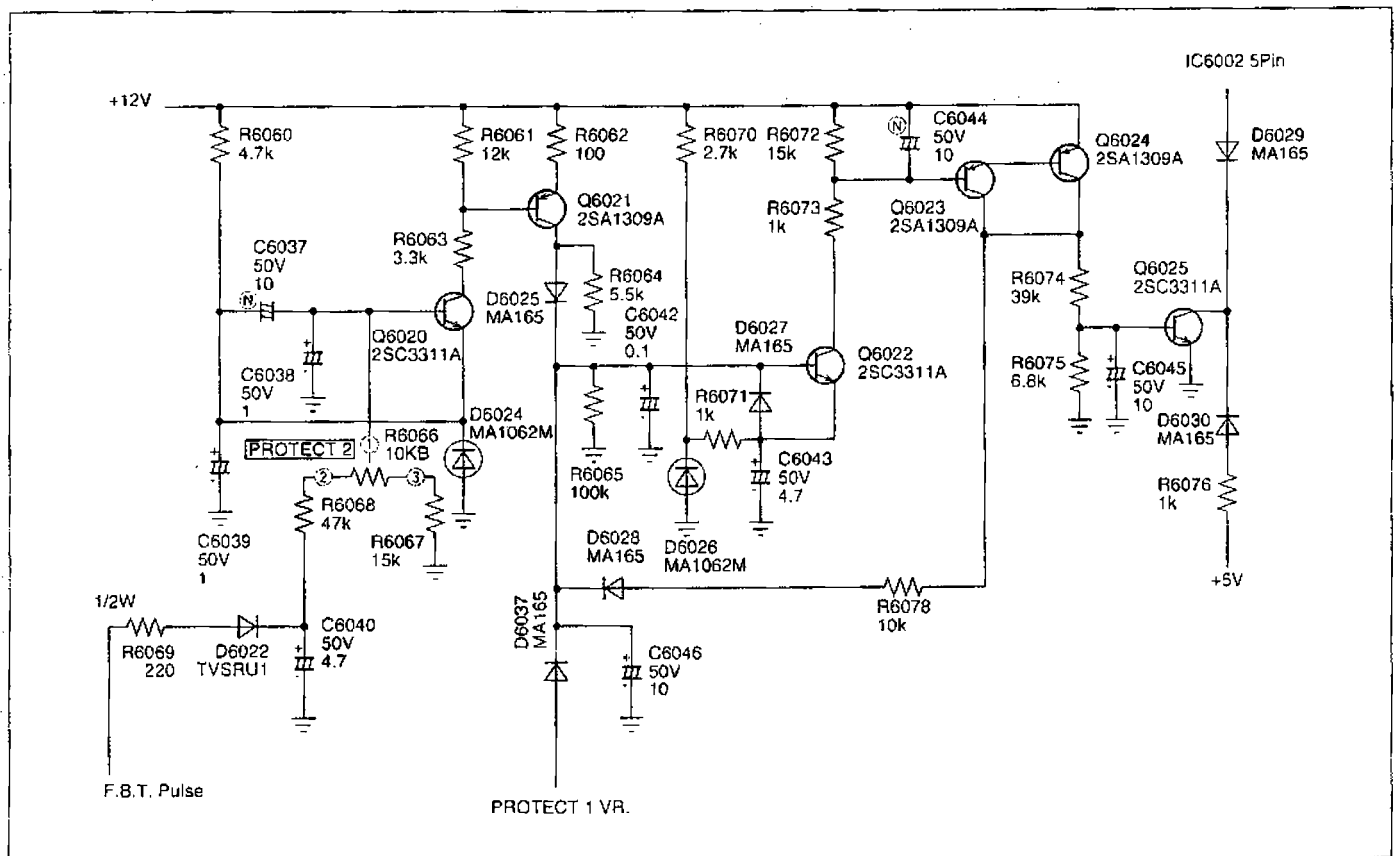

Fig. 6
1. Horizontal Oscillator Disable Circuit (See Fig. 6)